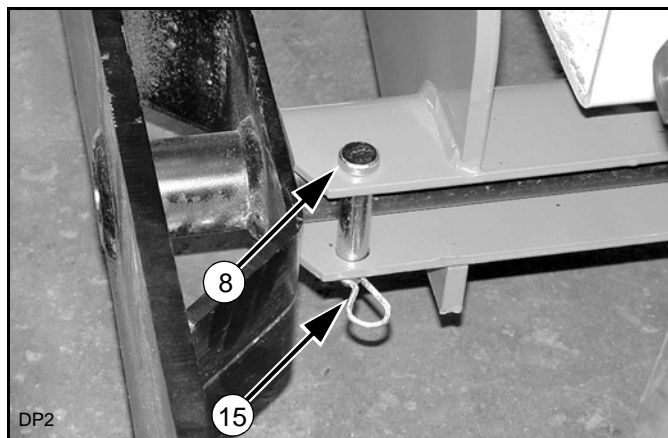

Figure 9 Clevis Pins Installed
3. Install clevis pins (8) and hair pins (15) to secure in rear mount as shown in Figure 9.